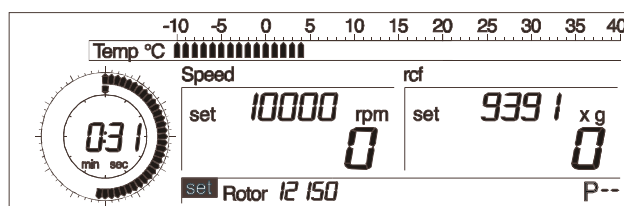

Fig. 5.20: Preselection of a rotor
- Turn the left rotary knob until “set” appears in front of the option “Rotor” on the display (Fig. 5.20).